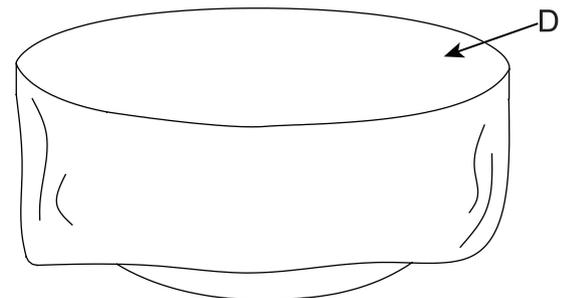

Figure 5
6. Once the fire pit is **completely cool**, cover it with the weather cover (D) to protect it from the elements. (see Figure 5)